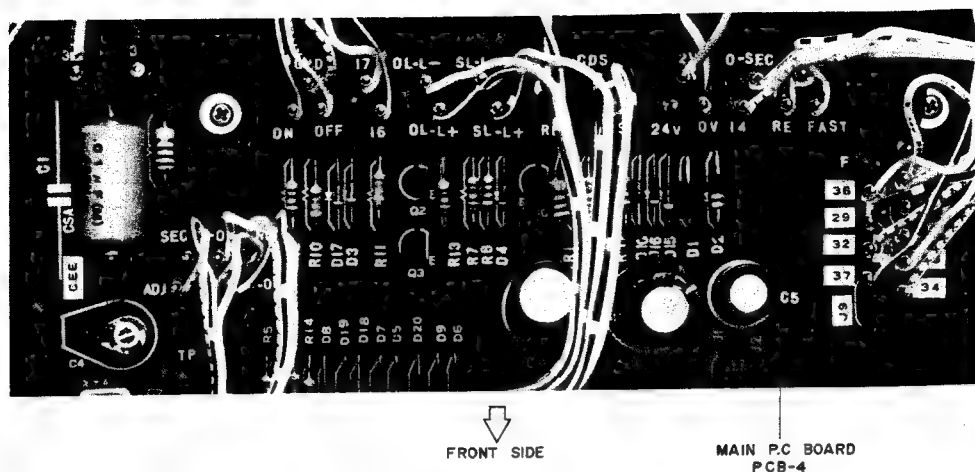

Fig. 5 Main P.C Board PCB-4 (DT-100)
**REFERENCE PERIOD SIGNAL MICROADJUSTMENT** (Refer to Fig. 5 to 7.) Connect the frequency counter to TP (DT-100), TP2 (DT-200) and pin ④ of IC2, set function to "period".